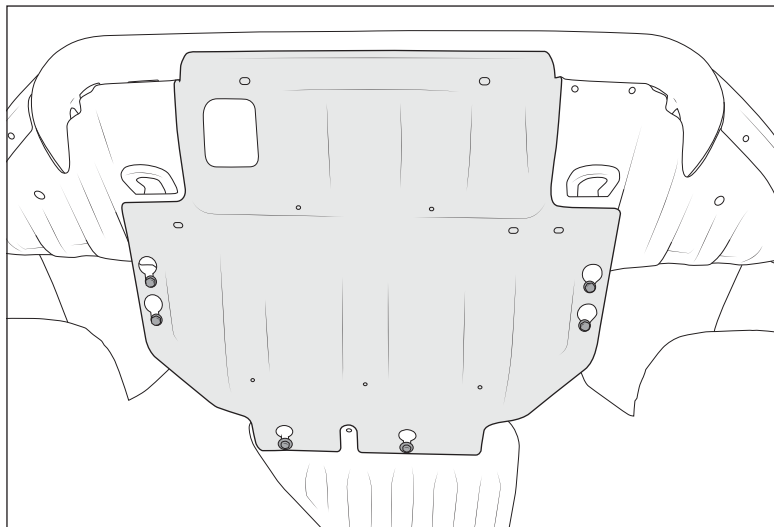

Figure 3
3. Remove Skid 1B by removing the 6 bolts (fig. 3).
14. Reinstall Skid 1B (fig. 3).